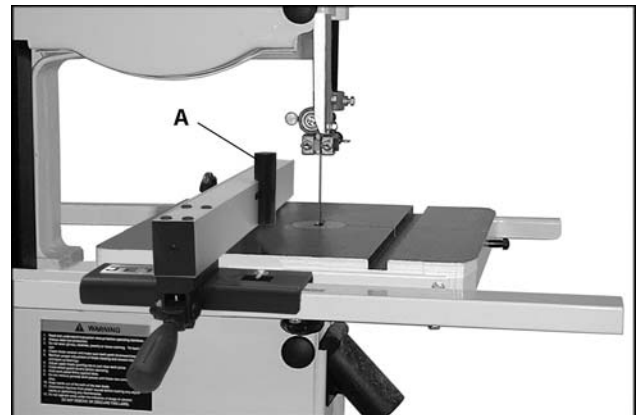

Fig. 8
12. For resawing operations attach the post (A, Fig. 8) to fence with the hand knob. There is a slotted hole in the fence that will accommodate the resaw kit. Position the post so that it is centered with the front edge of the blade.